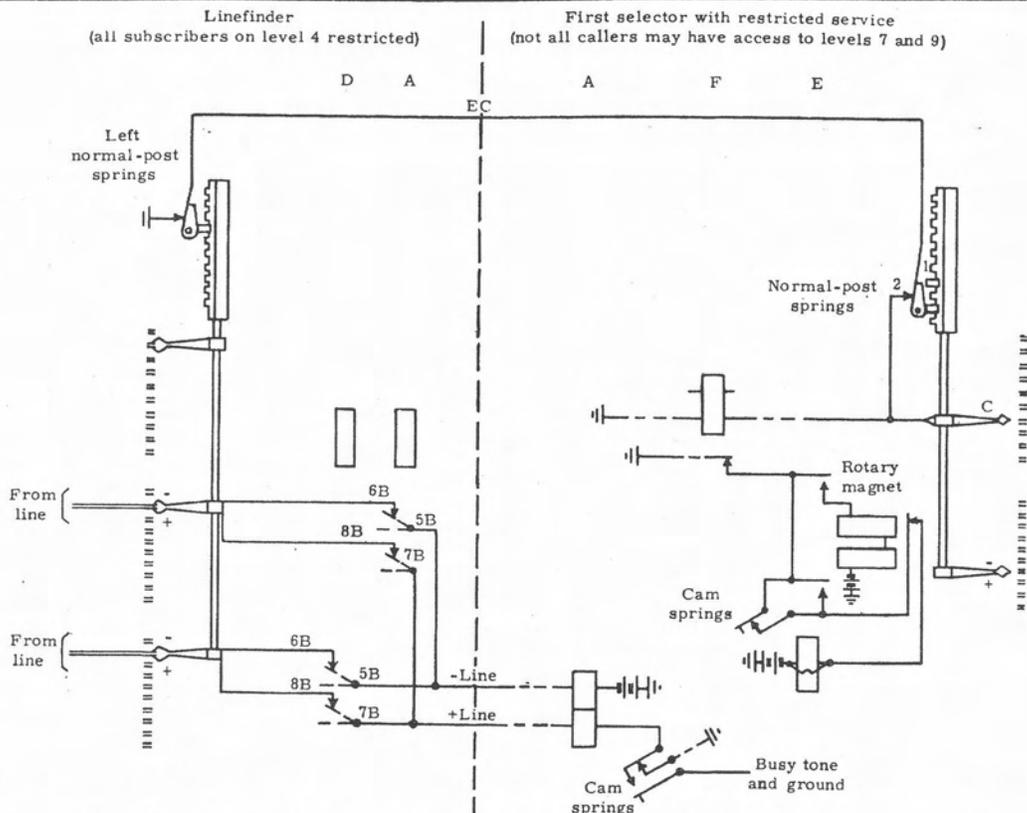

Figure 26. All callers on a linefinder level are restricted from calling certain levels of succeeding selector.
A linefinder may prevent subscribers on any level* from calling certain trunks. All such linefinder levels and all the denied selector levels must have their corresponding normal-post lugs bent. While connected to any line in the restricted level, the linefinder operates its normal-post springs (figure 26). If the subscriber dials a restricted trunk, the selector will rise to that level and operate its normal-post springs. Ground
*The linefinder can be wired for conversation timing in both banks of any level. In that case, the linefinder normal-post springs always have ground available (as in the left-hand part of figure 26).